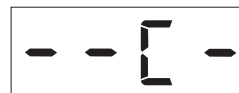

Figure 36. Pressure Adjustment
8. Press the **DOWN ARROW** (↓) button repeatedly until the third digit on the 7-segment display reads "C" (Figure 36).